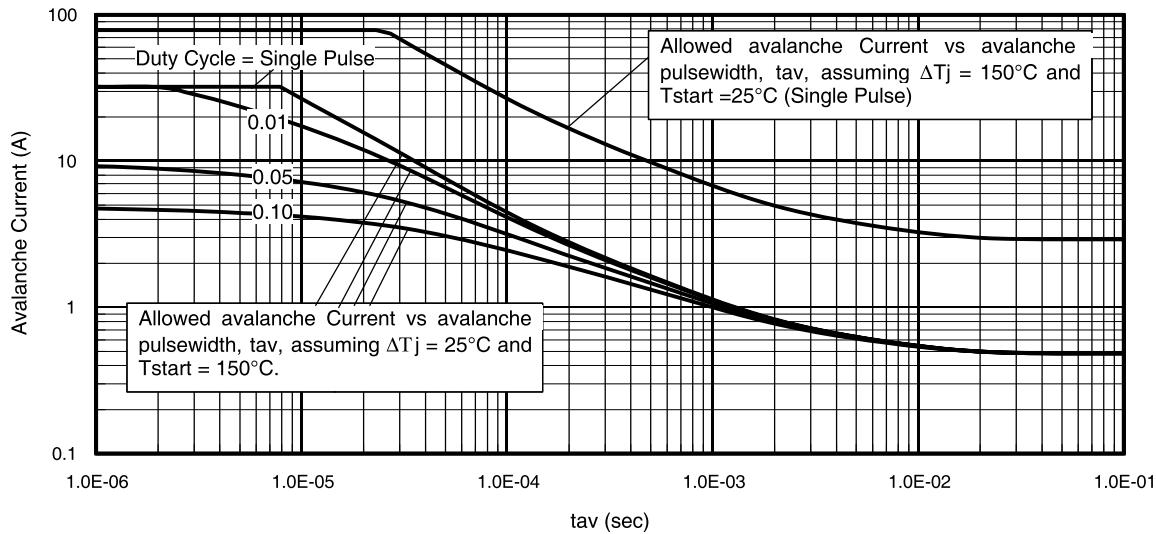

Fig 14. Typical Avalanche Current vs.Pulsewidth
Notes on Repetitive Avalanche Curves , Figures 14, 15: (For further info, see AN-1005 at www.irf.com)
7. ΔT = Allowable rise in junction temperature, not to exceed T_{jmax} (assumed as $25^\circ C$ in Figure 14, 15).